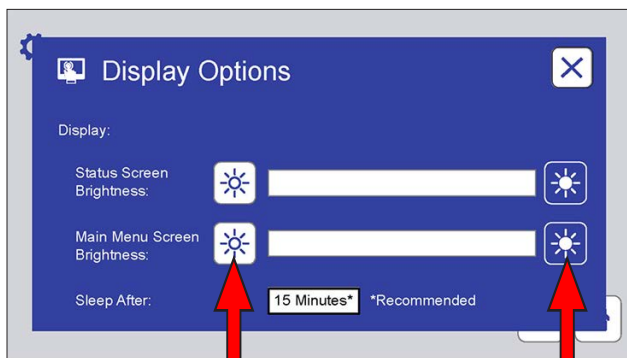
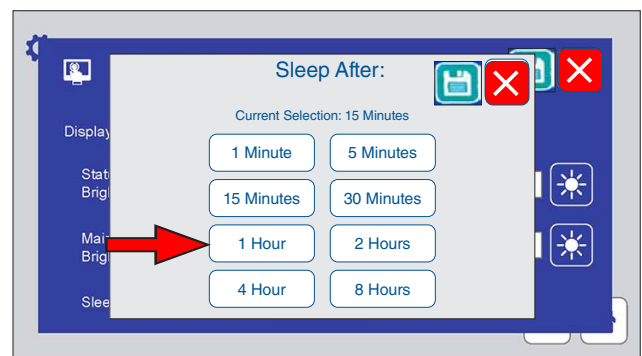

Figure 10.7e: The Display Options screen provides controls to adjust the brightness of the status and menu screens. Touch a brightness icon to adjust.
Figure 10.7h: Touch a time button to change the time before screens go to sleep. If changed, touch the save icon to save the new time.
- o Display Options (Figure 10.7e through Figure 10.7h)